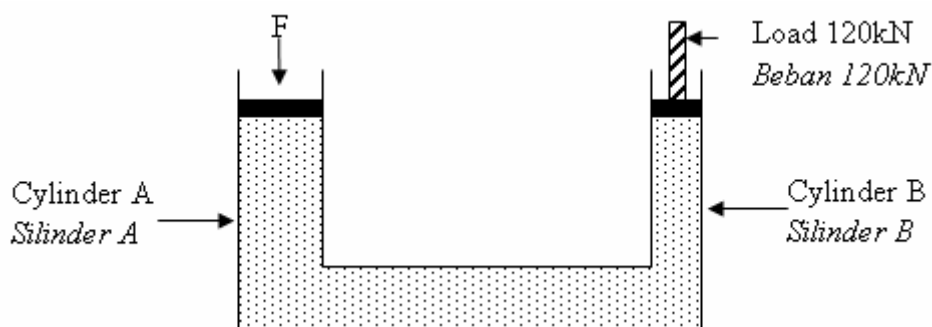

Figure 6
14. Figure 6 shows a hydraulic system used to lift a load weight 150kN. Given the area for cylinder A is  $0.5 \text{ m}^2$  and the area for cylinder B is  $0.3 \text{ m}^2$ . Calculate force F.